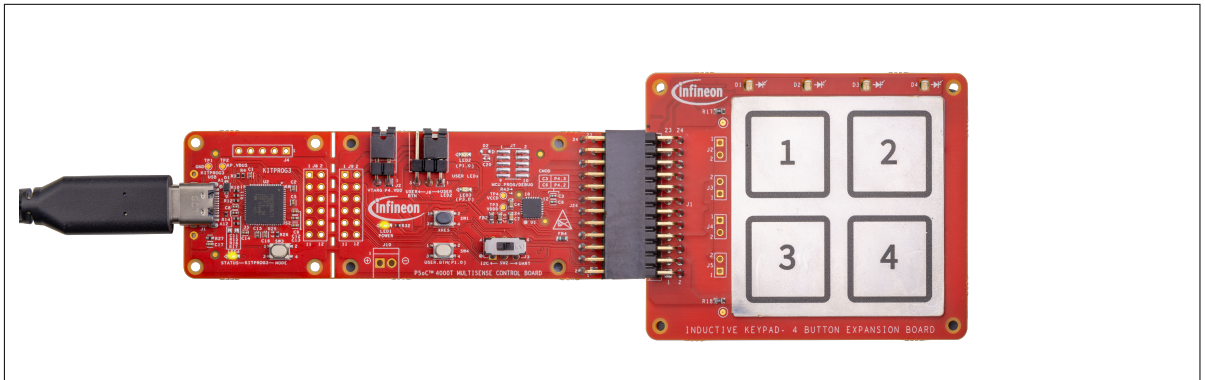

Figure 11 ISX Keypad-4 board connected
2. Connect the Keypad-4 expansion board at the header as shown in Figure 11